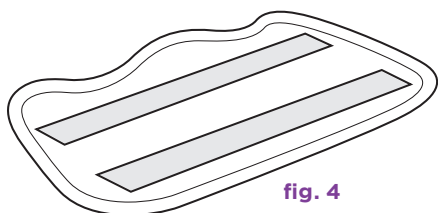

fig. 4
- 1 Wash pads in warm water. Wash separately from other laundry. Only use liquid detergent (no powder detergent). Do not use fabric softeners. Line dry or dry on a low dryer setting. (fig. 4)